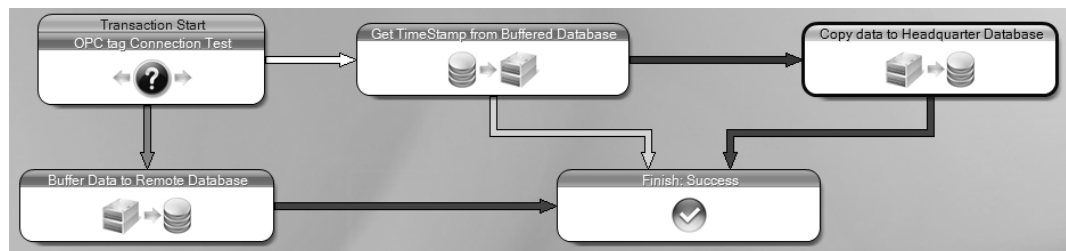

Figure L5.4 - Transaction Diagram with Get Timestamp from Buffered Database
- Drag an arrow from the **OPC tag Connection Test** block to the **Get TimeStamp from Buffered Database** and then choose **On True**. Then drag an arrow from the **Get TimeStamp from Buffered Database** to **Copy data to Headquarter Database**. Then select **On Fail**. The transaction should look like Figure L5.4